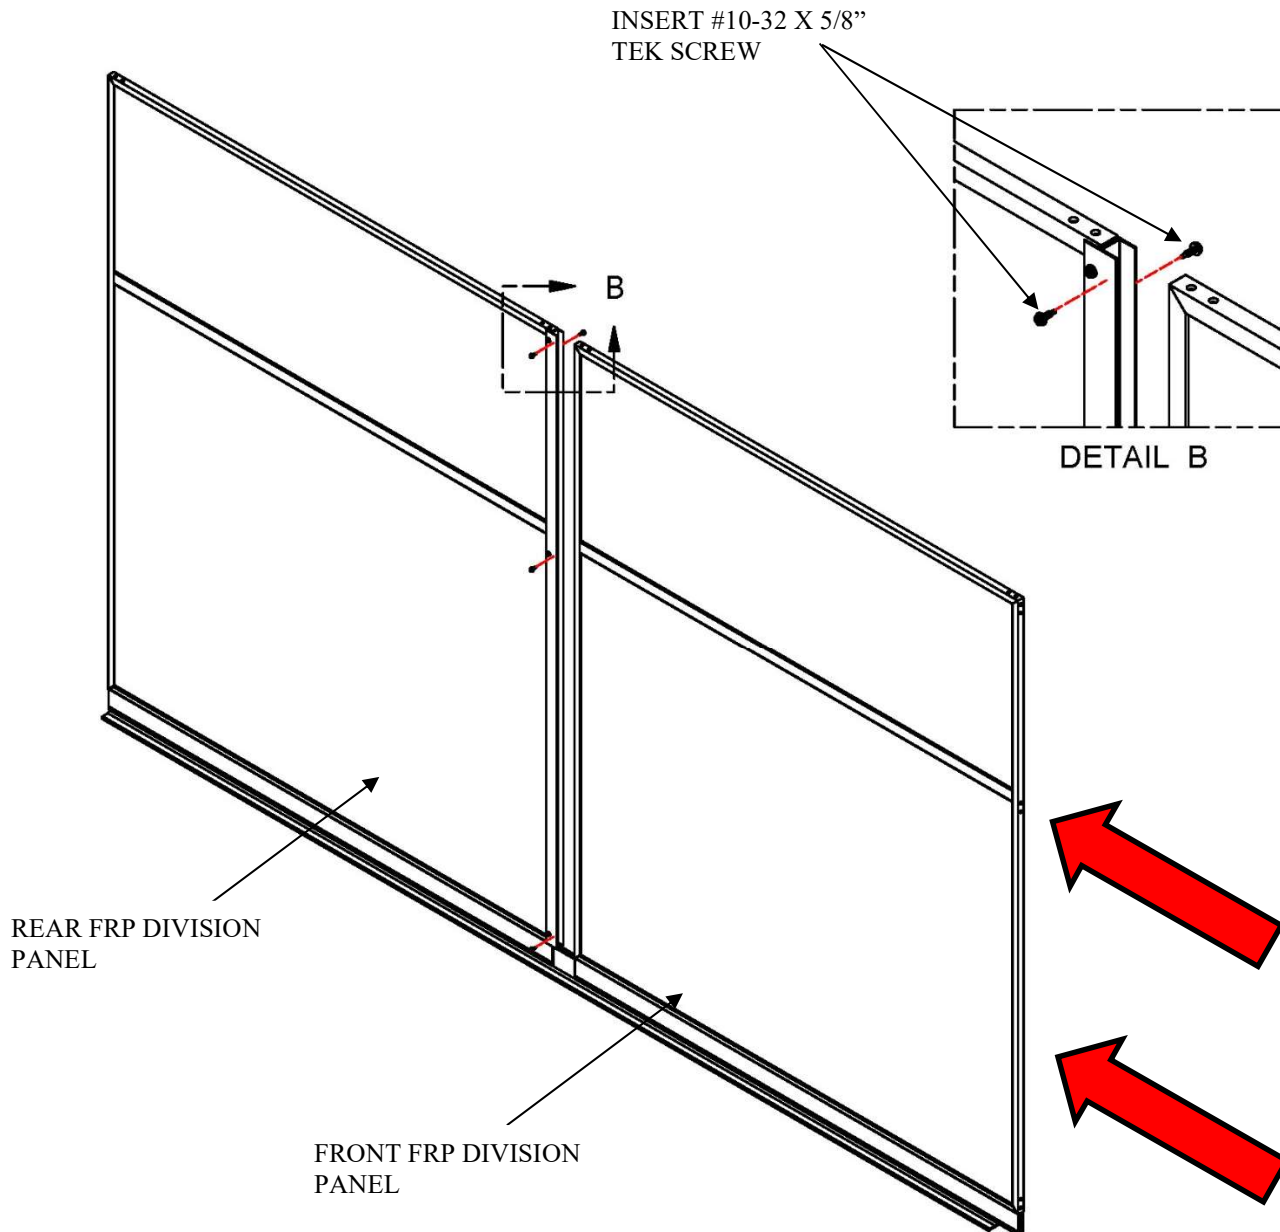

Figure 3B
5. Using six of the #10-32 x 5/8" TEK screws provided, secure Panel connection H extrusion to the rear panels. (Three screws should be used for each side of the panel, one each in the top middle and bottom). See Figure 3B.